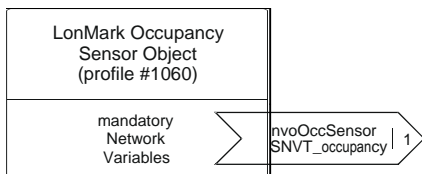

Fig. 6. Occupancy Sensor Object
- un occupancy sensor object (#1060) (see Fig. 6)